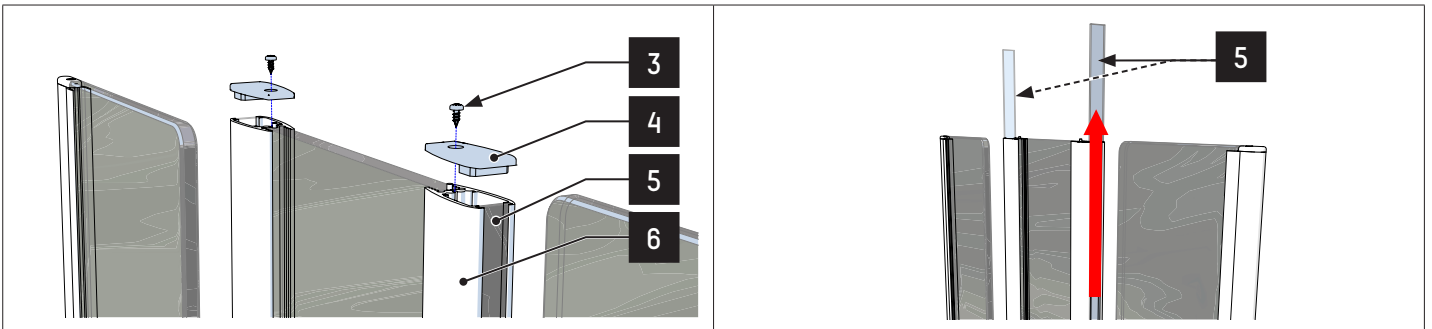

Fig. 88 - Removing the plug(s) and screen(s) of the fixed obstacle
3. On the side of the cell to be replaced, unscrew the fixing screw (3) from the top plug (4) and remove the protective screen (5) by sliding it out off the aluminium profile (6) (⇒ Fig. 88);